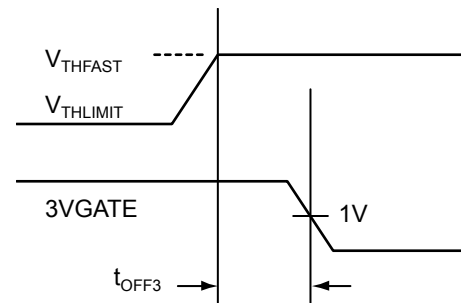

Figure 3. 3V Current Limit Response Timing
| $t_{\text{OFF}(12\text{V})}$  | 12V Current Limit Response Time, Figure 3   | 12V OUT [A/B] = 0V (6)  |   | 1                                |             | μs                    |
| $t_{\text{OFF}(12\text{MV})}$   | -12V Current Limit Response Time, Figure 3  | 12MV OUT [A/B] = 0V (6)   |   | 1                                |             | μs                    |